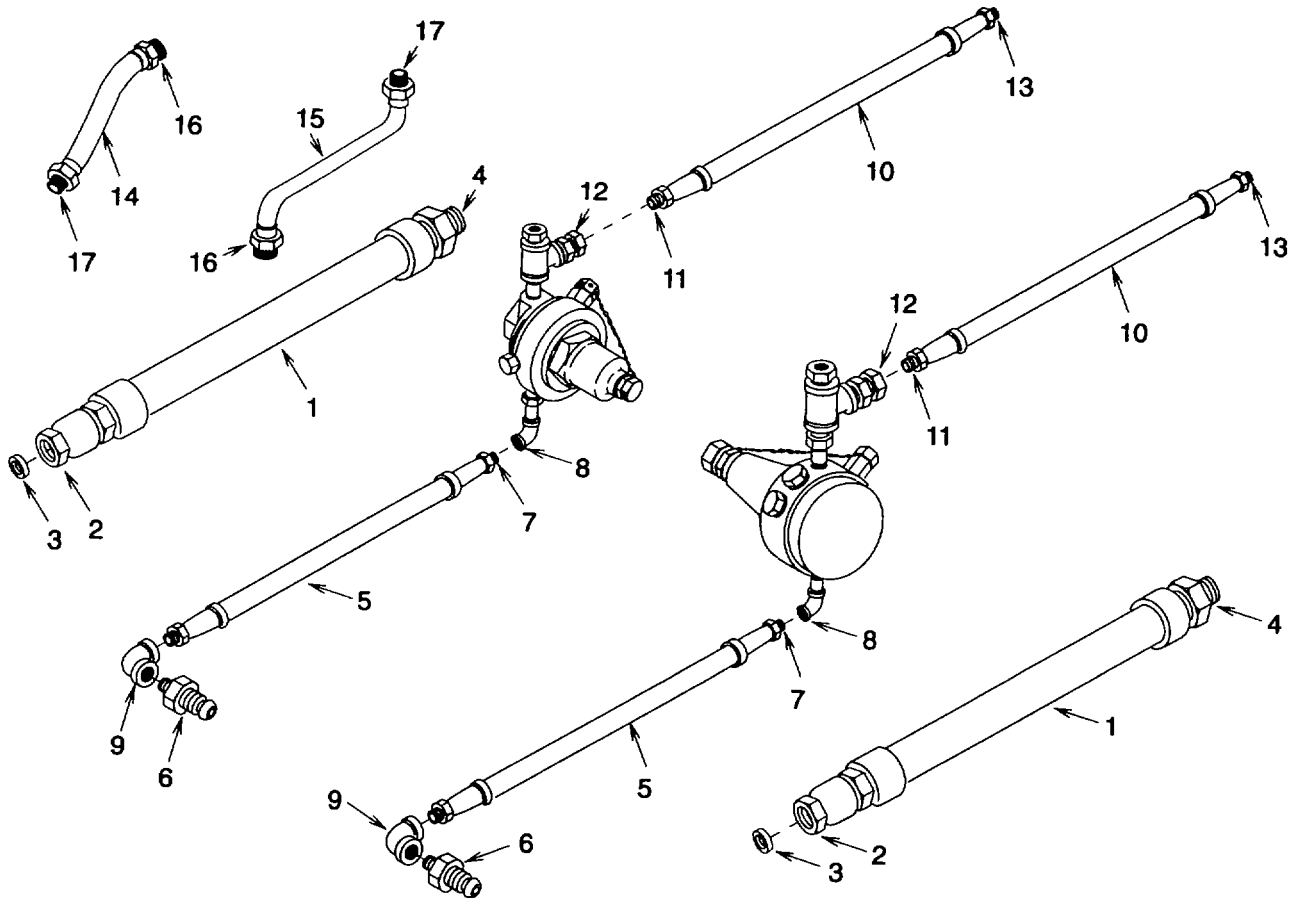

Figure 4-9. Hoses
- a. Removal (See figure 4-9.)